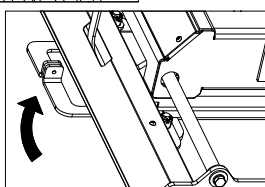

Figure B2: View of closed latch handle.
- 2. Prepare to adjust latch tension.** Once the base is in place, remove the cotter pins from each of the four castle nuts. Engage the cams with each attachment point by turning the latch handles back to their latched position, see Figure B2. If a handle will not turn easily, loosen the castle nut until the cam will freely turn and engage the attachment point.